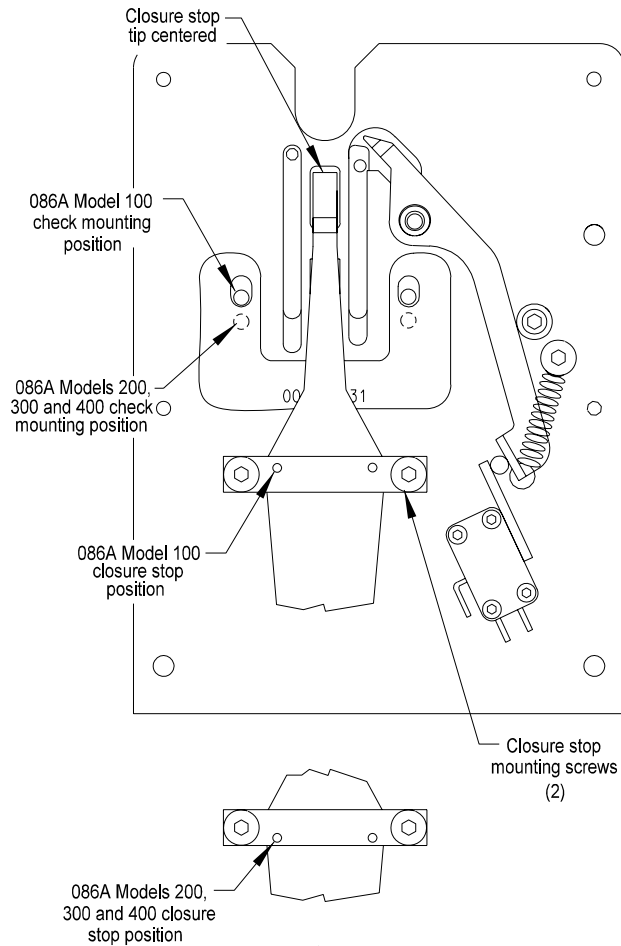

Figure 3.3
The check stops the closure strip from moving backward while the pick retracts. Depending on the model closer there are two different mounting locations for the check. Refer to Figure 3.3 to further understand the check mounting position. For this adjustment the closure track must be removed from the closer.
1. For 086 Model 100 the closure stop mount is mounted as shown (Figure 3.3 upper view).
For 086 Models 200, 300, or 400, the stop mount is mounted as shown (Figure 3.3 lower view).